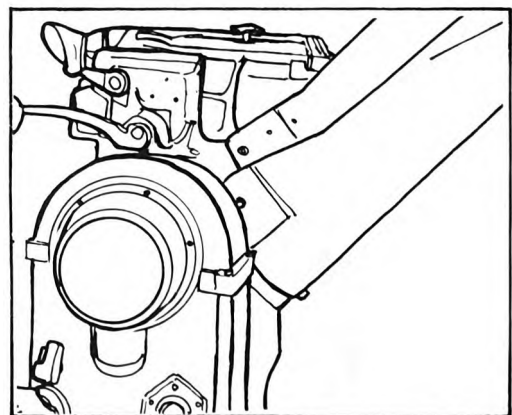

Figure 11. Install launch tube.
- a. Raise the forward end of the launch tube slightly and place the mounting lugs in the trunnion fittings (figure 11).